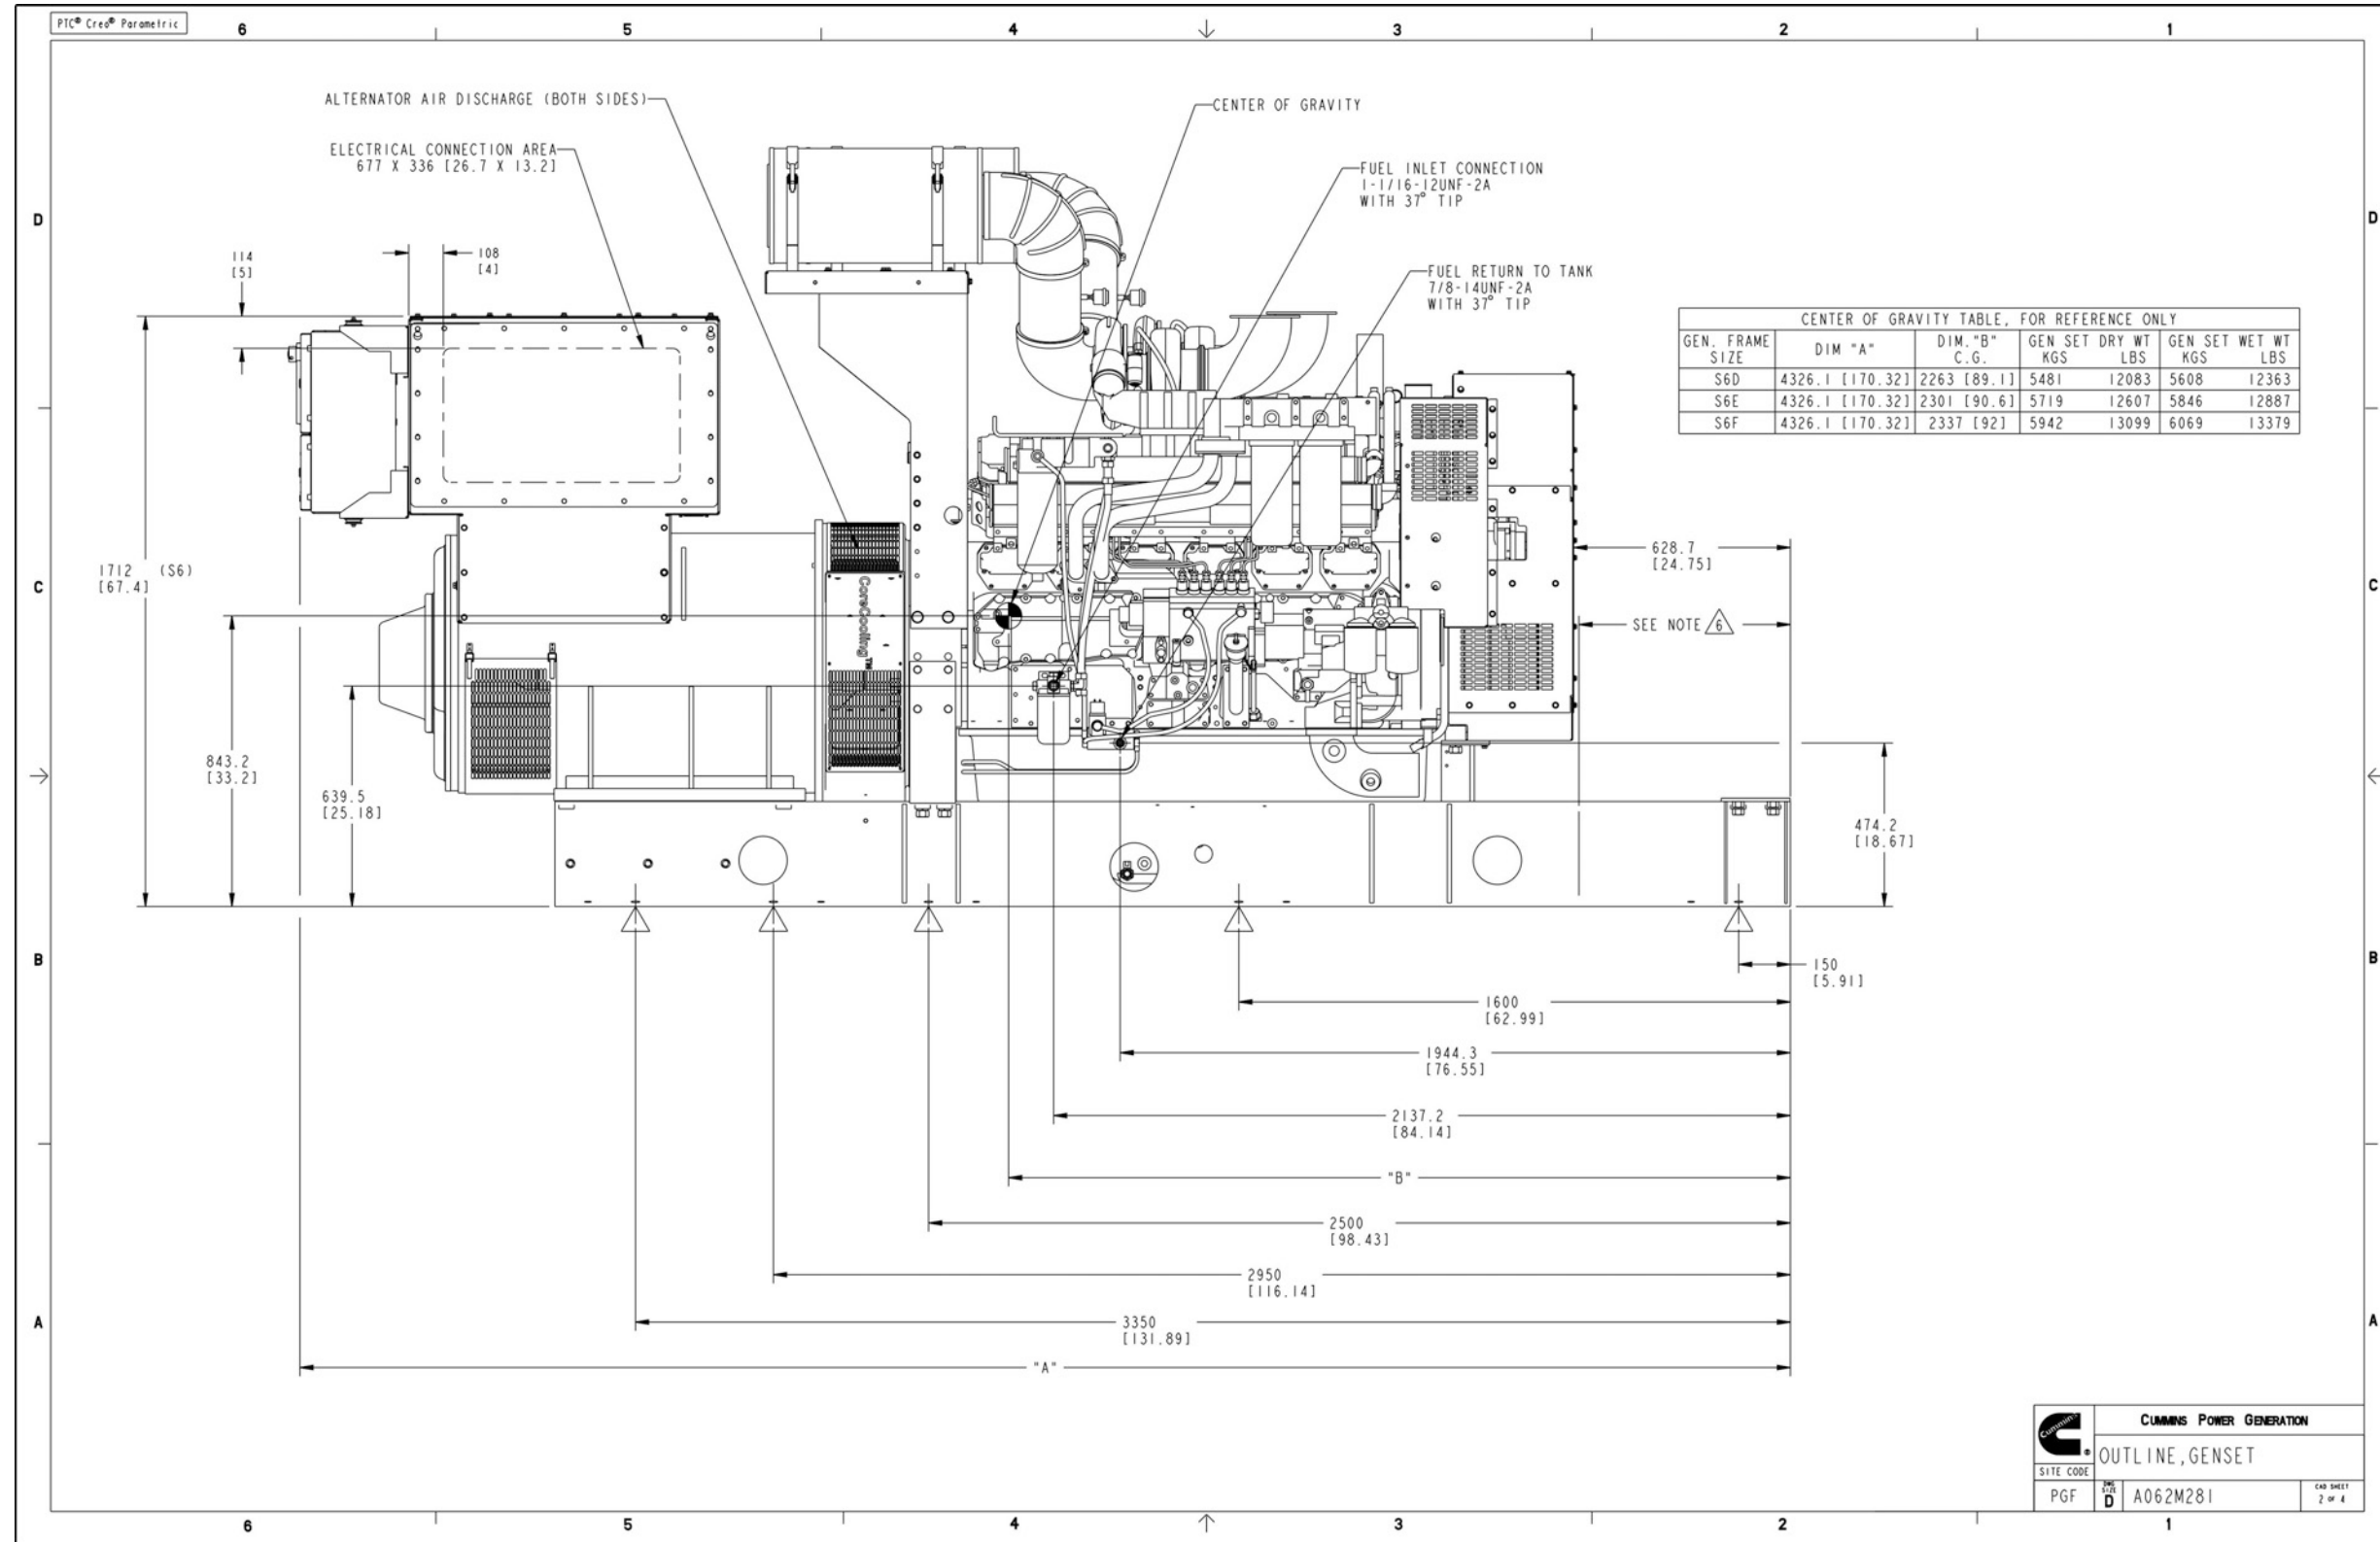

FIGURE 79. GENERATOR SET OUTLINE DRAWING (REMOTE RADIATOR) (SHEET 2)
- Figure 79. Generator Set Outline Drawing (Remote Radiator) (Sheet 2) 145